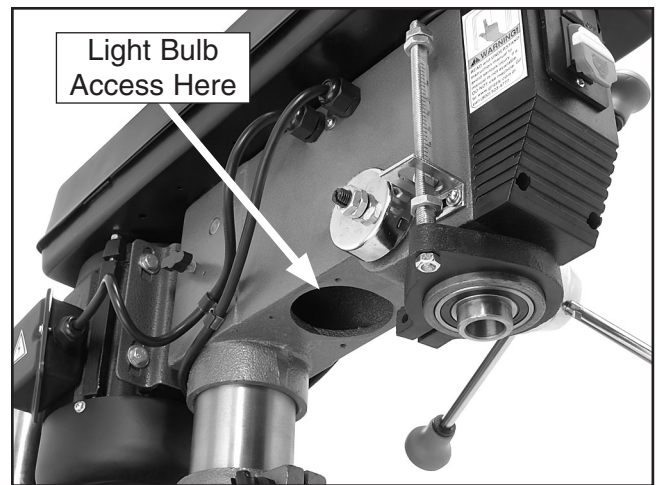

Figure 13. Light bulb access location.
2. Install a 60W or smaller light bulb in the location shown in **Figure 13**.